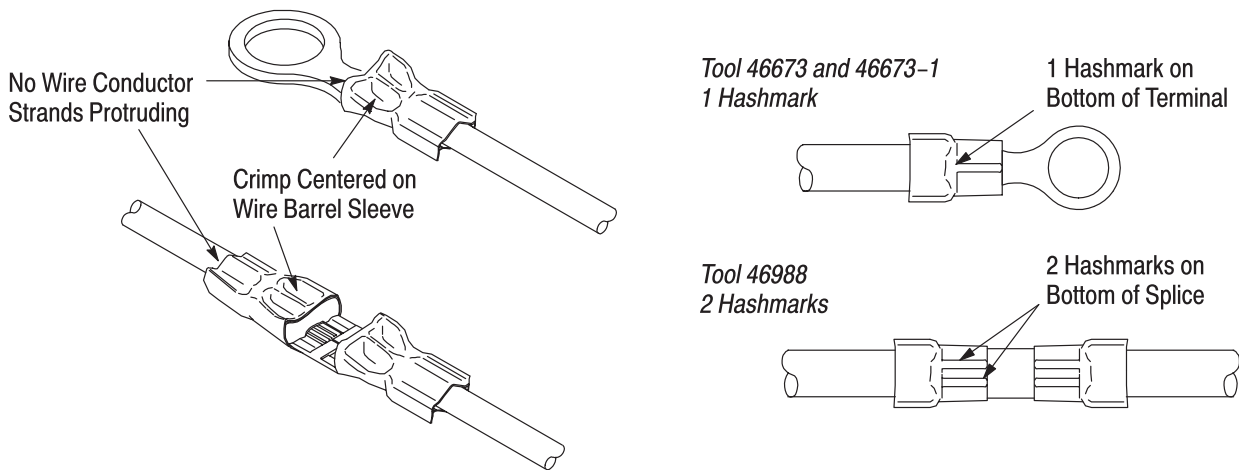

Figure 6
8. Inspect the crimp. Refer to Figure 6 for a properly crimped terminal and splice. Check the insulation grip on the crimped terminal or splice. Refer to Section 4, INSULATION CRIMPING ADJUSTMENT.
**NOTE** *The hashmark code on the bottom of the wire barrel sleeve created by the tool should match the hashmark code referenced with the appropriate tool. See Figure 6.*